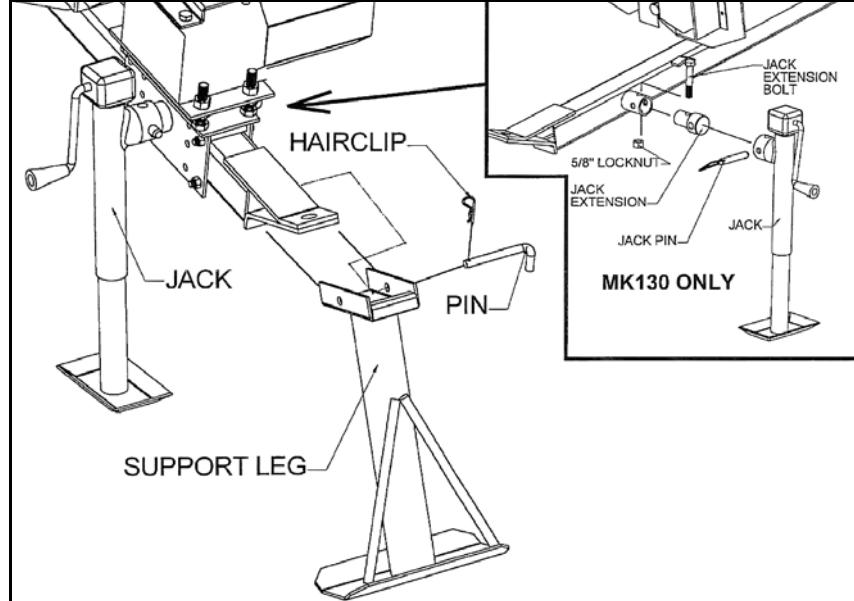

Figure 2.1
5. Install support leg as shown in Figure 2.1.
- 9. **MK130 ONLY:** Install jack extension with jack extension bolt and 5/8" locknut provided as shown in Figure 2.1 (inset). Tighten securely.